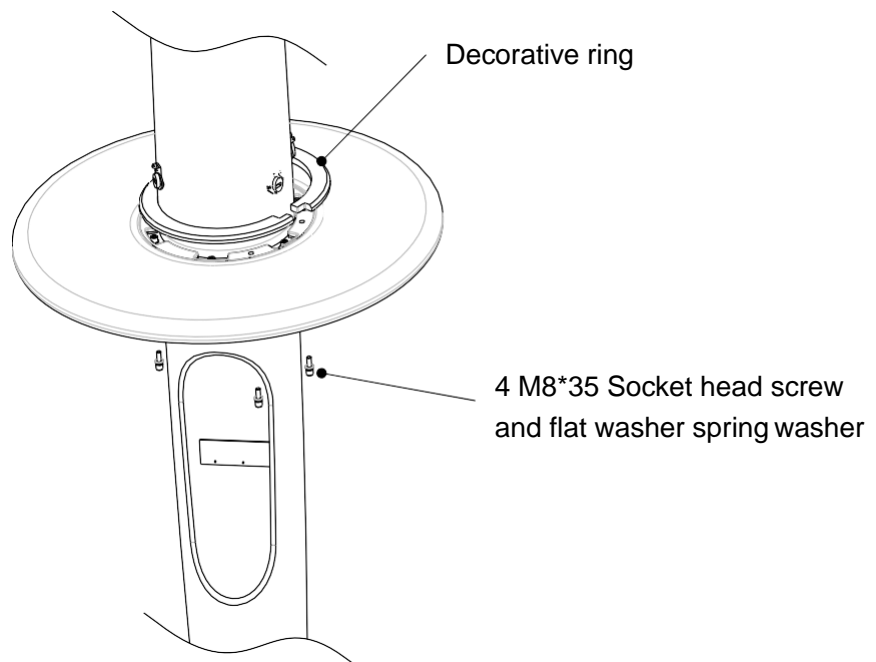

Figure 12
- ② After locking up and down the pole, align the holes in the tray placed decorative ring, hexagonal screws through the back of the lower poles on poles and trays with internal M8, decorated with thread locking ring, as shown in Figure 12.